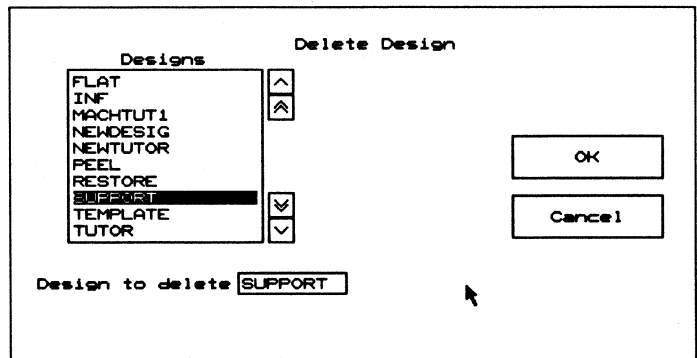

Figure 2-14. Delete Design window.
1. Select **Delete Design**. The window shown in figure 2-14 displays.